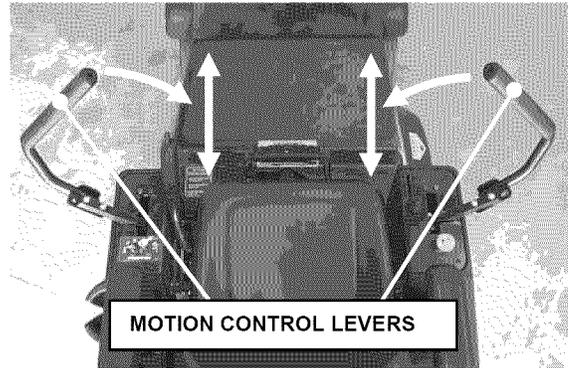

FIGURE 1.5
1. Make sure both motion control levers are lifted fully up and out into their neutral lock positions. See Figure 1.5.